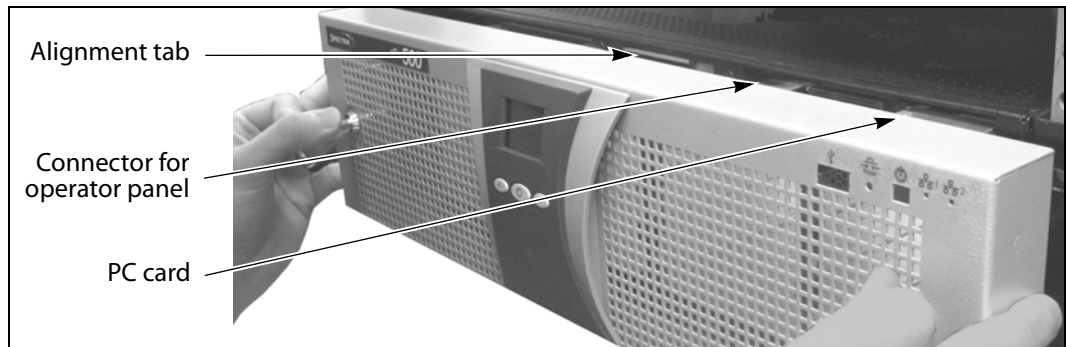

Figure 14 Attach the front cover.
- a. Hold the edges of the cover and orient it so that the alignment tab fits straight into the top slot in the front of the chassis, as shown in Figure 14.